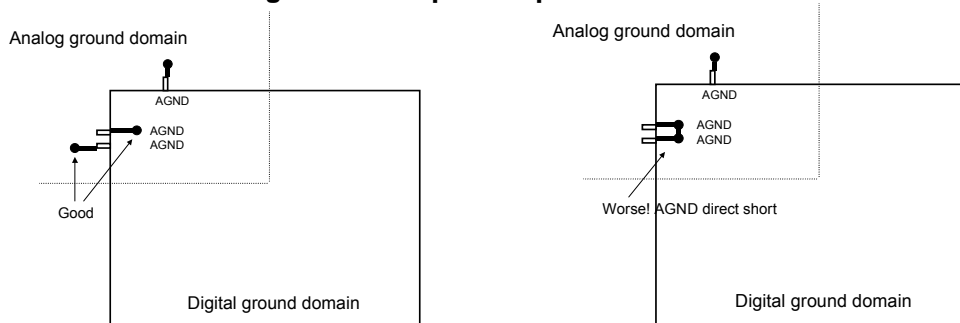
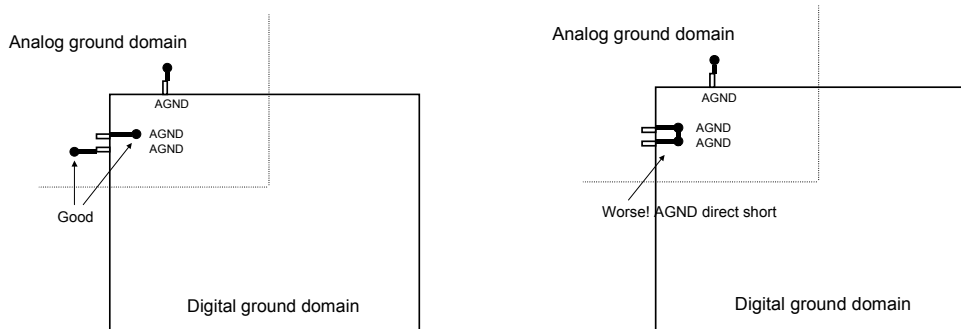

Fig.4-2 All AGND pins must be directly connected to analog ground
Fig.4-4 All AGND pins must be directly connected to analog ground
- All AGND pins could not directly short each other (see Fig.4-2, Fig.4-4). It must be directly connected to analog ground domain.